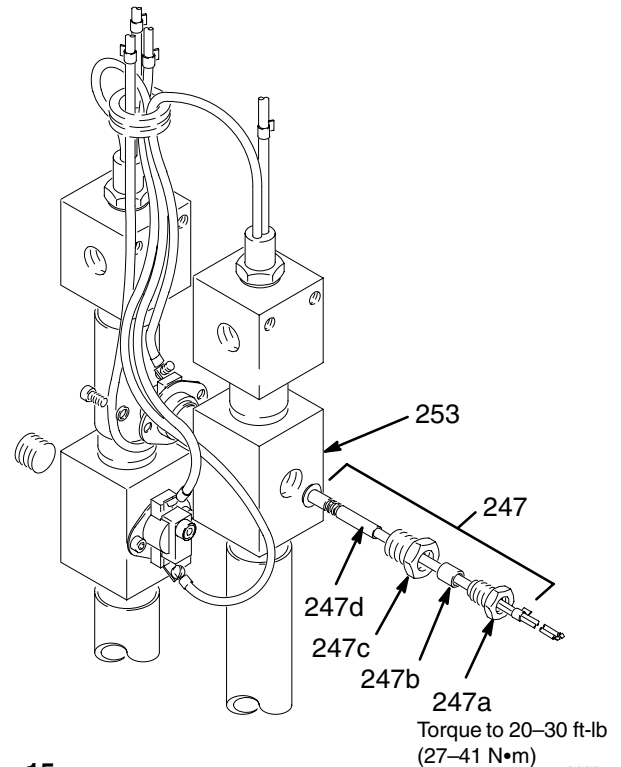

Fig. 15
- Disconnect the power cord. Remove the front heater panel (238).
- Unscrew the adapter (247c) and remove the probe assembly (247) from the manifold (253). See Fig. 15.